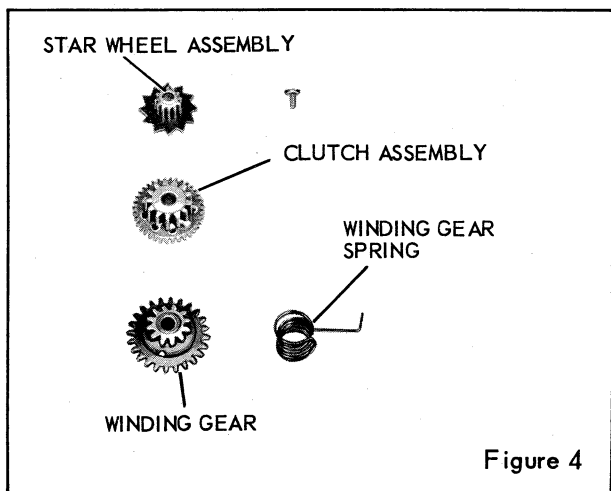

Figure 4
| | The CLUTCH ASSEMBLY, figure 4, is slipping. | Replace the clutch assembly. |
| The flash setting is below the millisecond tolerance (fast) | The tension is too great on the WINDING GEAR SPRING, figure 4. | Relieve the tension slightly on the winding gear spring. However, there must be enough tension on the spring to permit the winding lever to carry through on the flash setting. |
3. Winding lever, with the sixth or seventh tooth from the left meshed with the WINDING GEAR, figure 4. Place the WINDING GEAR SPRING in tension by giving two and one-quarter strokes to the winding lever, lifting and replacing the lever after the first and second strokes. This should be the approximate setting for the flash synchronization of the shutter.
4. WINDING GEAR, figure 4, and the WINDING GEAR SPRING.